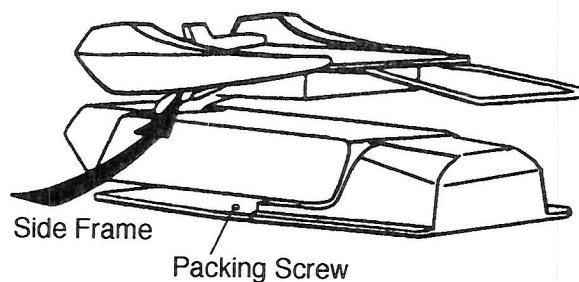

Figure 2
- 2) Loosen and remove two packing screws(6x40) holding the chair base into pallet. (See Figure 2.)
- 3) Lift chair base from pallet into the correct location. Be sure to lift chair under the side frame as shown in Figure 2.